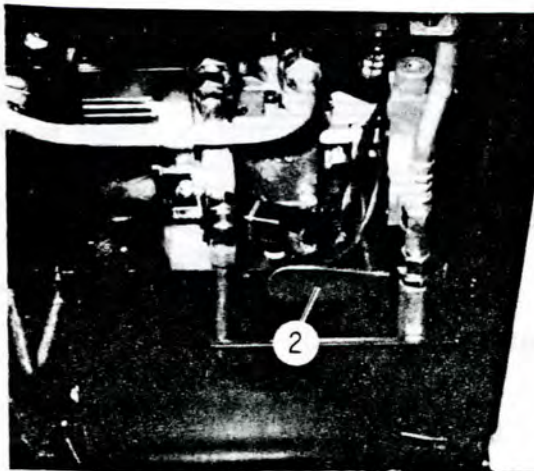
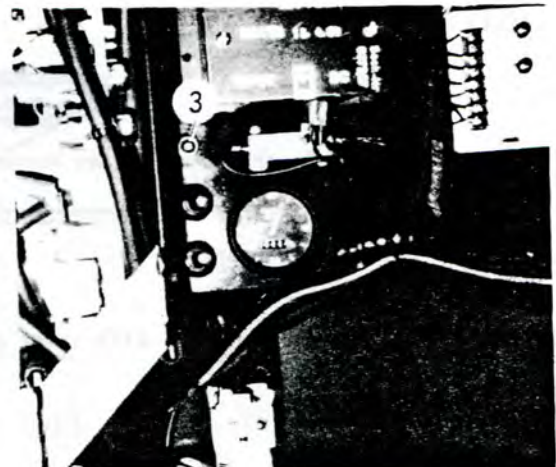

Fig. 21
Fig. 22
8.1.2 From the floor. Raise the rear cover and open the valve (2 Fig. 21).
The controls must be in the neutral position. Otherwise depress the button (3 Fig. 22) before opening the valve (2 Fig. 21).